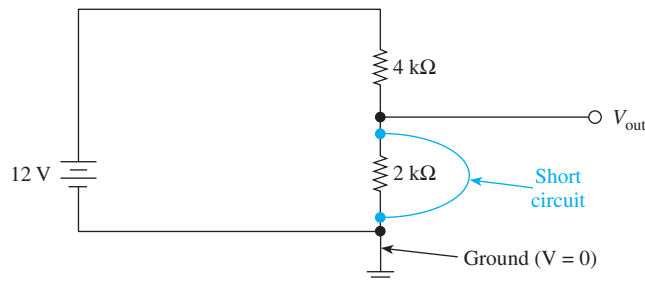

Figure F-5 A short circuit across the 2 kΩ resistor forces the output to zero V.
A *short circuit* occurs when an electrical conductor is purposely or inadvertently placed across a circuit component. The short causes the current to bypass the shorted component. Calculate V_{out} in Figure F-5.
- F-7.** The current leaving the battery in Figure F-5 _____ (increases, decreases) if the short circuit is removed.